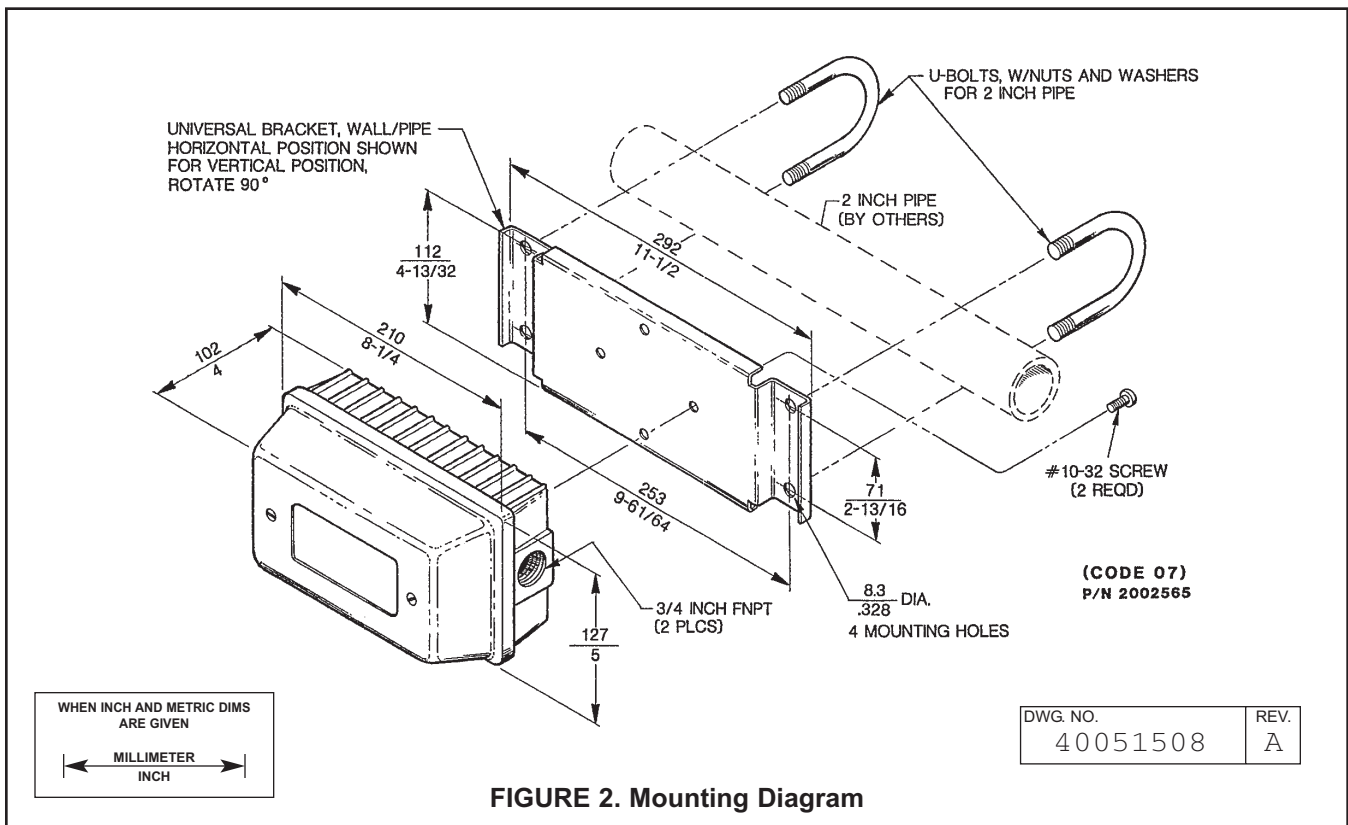

FIGURE 2. Mounting Diagram
2.2 MOUNTING. Refer to Figure 2 and mount the power supply in a convenient location.